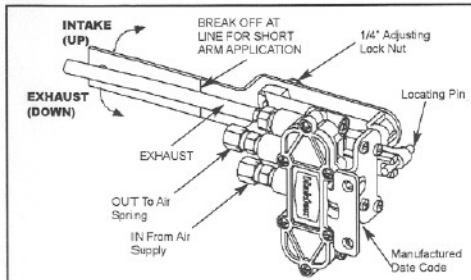

Figure 2. Features of Type CR HCV
- a) Connect air line from air springs to the center port (Figure 2)
- b) Connect air line from the air supply to the bottom port (Figure 2)
- c) The top port is ALWAYS the exhaust port. Install the supplied exhaust fitting to top port and slip the exhaust hose over the exhaust fitting (Figure 2)